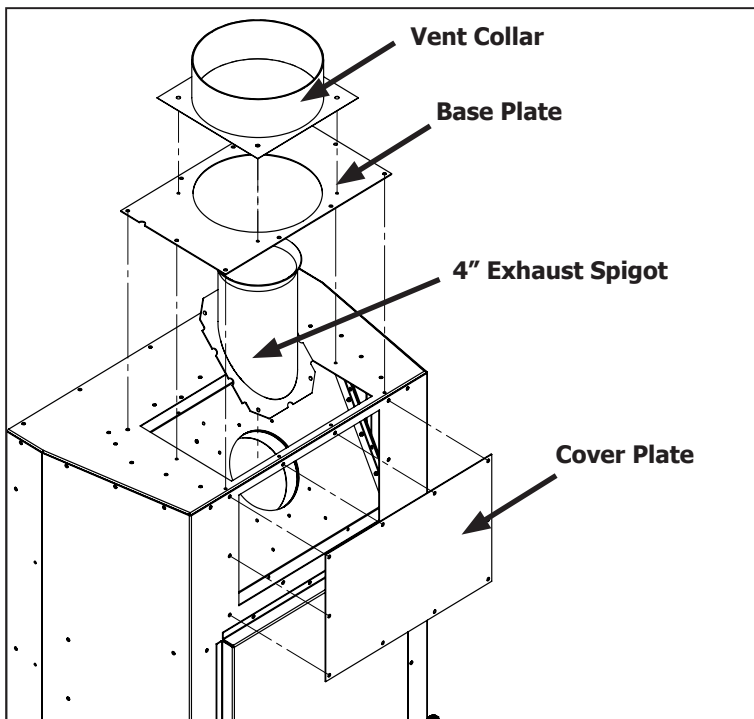

Figure 30: Removal of Co-Axial Venting
Step 1: Using a T20 screwdriver remove the vent collar, base plate, cover plate and 4" exhaust spigot (28 screws total) as shown in Figure 30. The vent collar, base plate, and 4" exhaust spigot will no longer be used.